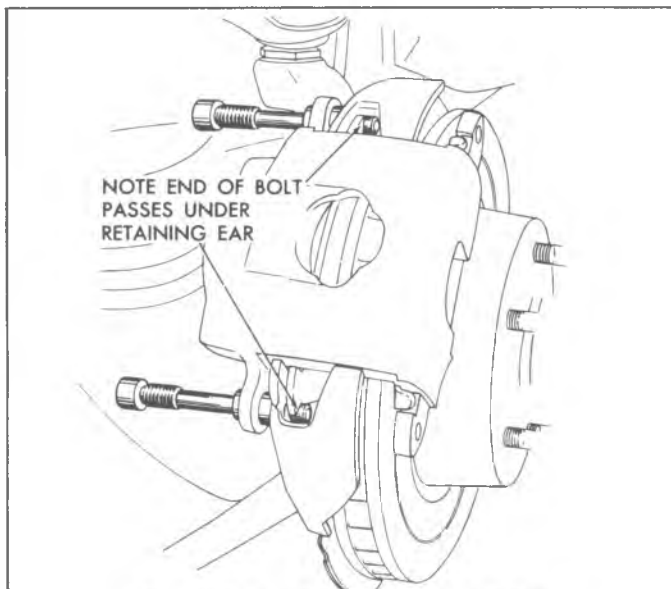

Fig. 54--Caliper Removal and Installation
4. Remove the two mounting bolts which attach the caliper to the support (fig. 54).